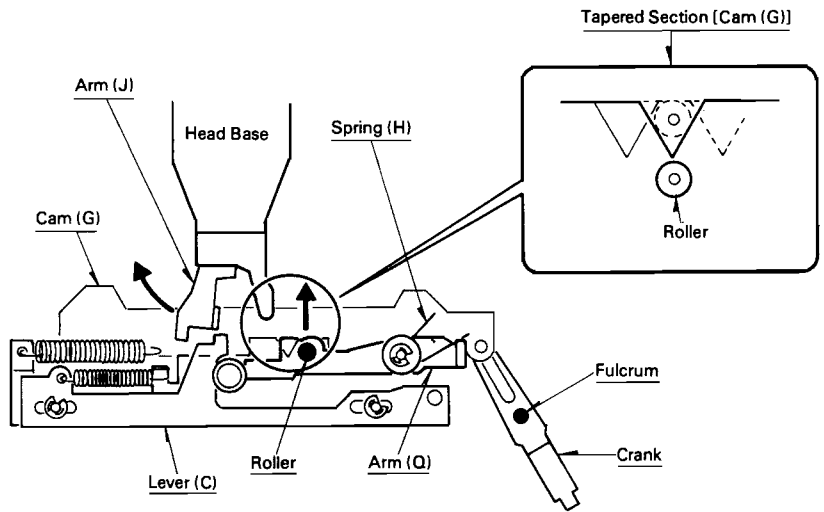

Fig. 18
3. With Cam (G) moving right or left, Arm (Q), through the pressure of Spring (H), is pushed toward the upper side in the figure to strike the bottom of the tapered section of Cam (G) and is locked.
4. With Crank returned to center position, the Roller of Arm (Q) rolls over the tapered section to unlock Arm (Q) (Fig. 18).
5. Shifting of Crank during PLAY causes the protrusion of Lever (C) to push Arm (J), so that the Head Base is unlocked.
6. At the end of F.F./REWIND, the sensing mechanism is activated and advances the Head Base, with the result Arm (Q) is pushed toward the lower side in the figure by the end of the Head Base to bring F.F./REWIND to a stop (Fig. 18).